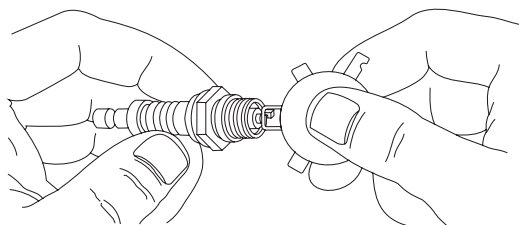

Figure 13 — Service Spark Plug
3. Check electrode gap with wire feeler gauge and reset spark plug gap to recommended gap if necessary (see Figure 13 and *Specifications*).